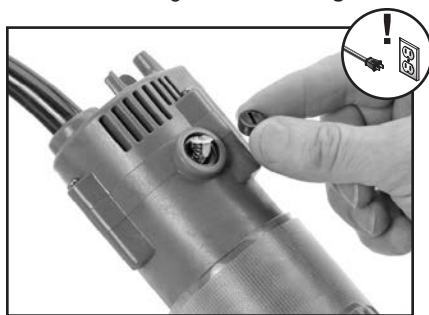

Figure 21. Example of replacing motor brushes (1 of 2).
1. Remove motor brush caps on sides of motor housing, as shown in **Figure 21**.